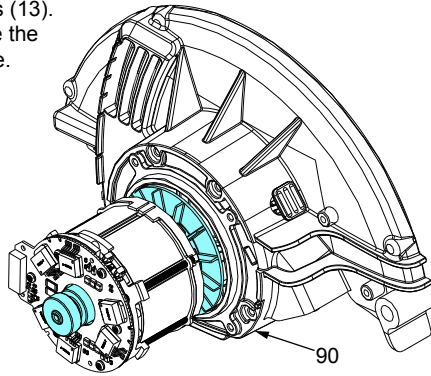

Figure 2
- Insert the rotor/stator assembly into pinion bore of the Upper Guard Gearcase Assembly (90). Carefully wiggle and push the rotor/stator until the ball bearing in front of the fan is fully seated in the bearing bore of the gearcase. See figure 2.